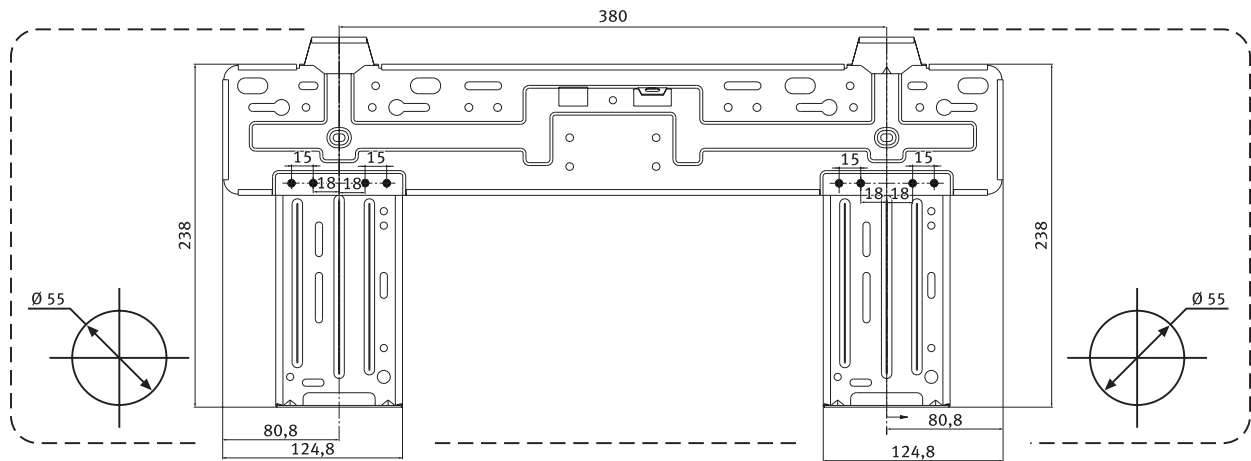

Fig. 9.6 Mounting plate for 3-025 WNI and 3-035 WNI.
In this case, a suitable hole must be made in the wall behind the unit (see Figures 9.6 and 9.7).
- Drill a hole in accordance with the diameter and position as indicated in Figures 9.6 and 9.7, ensure the hole is slightly descending to the outside to allow for a fall in the drain line.
In this case holes do not have to be made in the wall since the indoor unit body has knock outs which can be opened to allow the pipes to exit the unit: choose the most convenient one for the desired outlet position (see Figures 9.6 and 9.7).